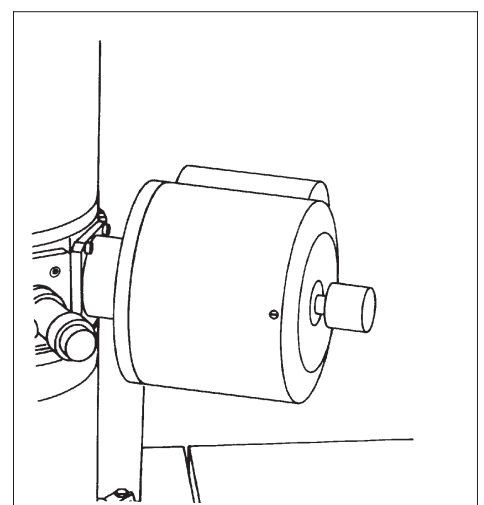

Fig. 4-3d: Microscopy
- **Push specimen rod slowly into *microscopy position* (Fig. 4-3d).**